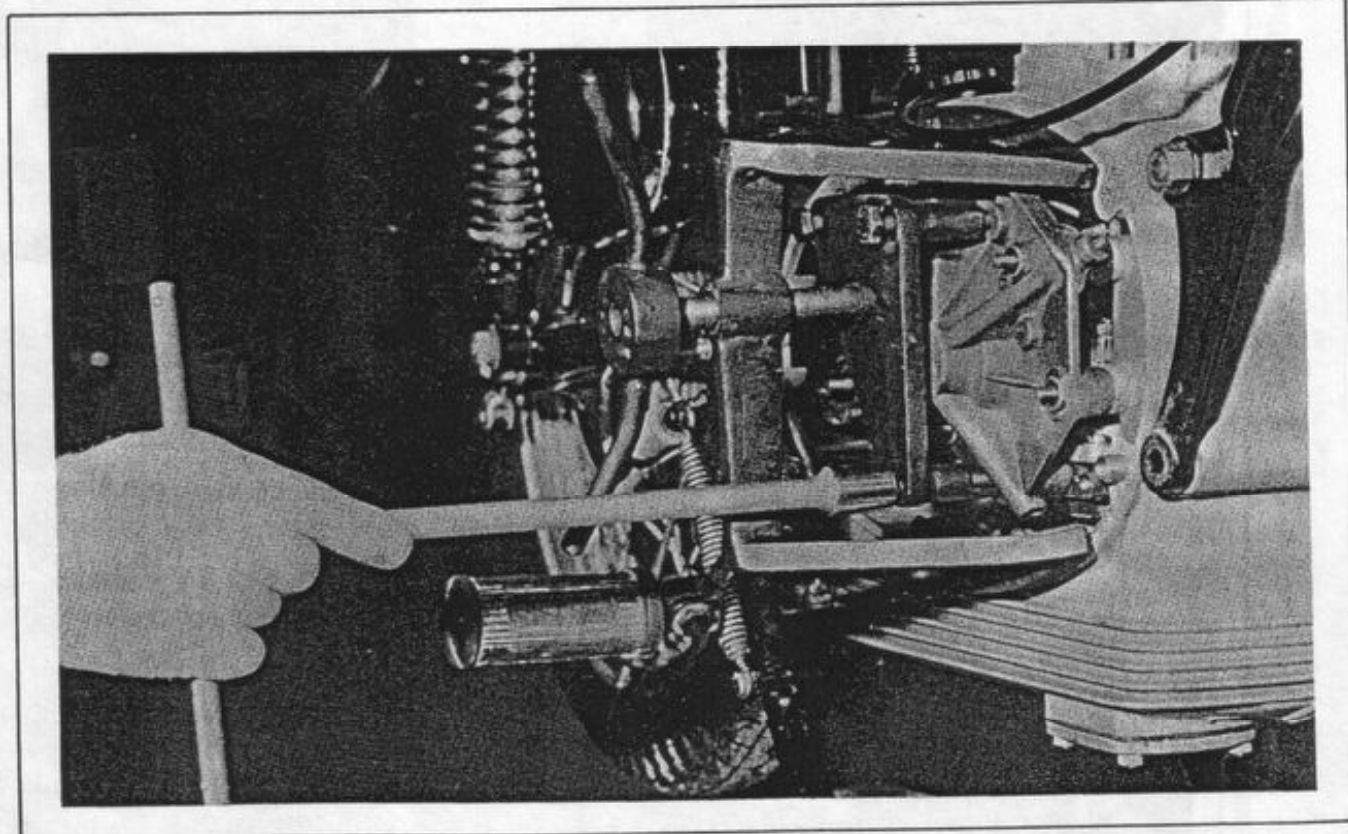
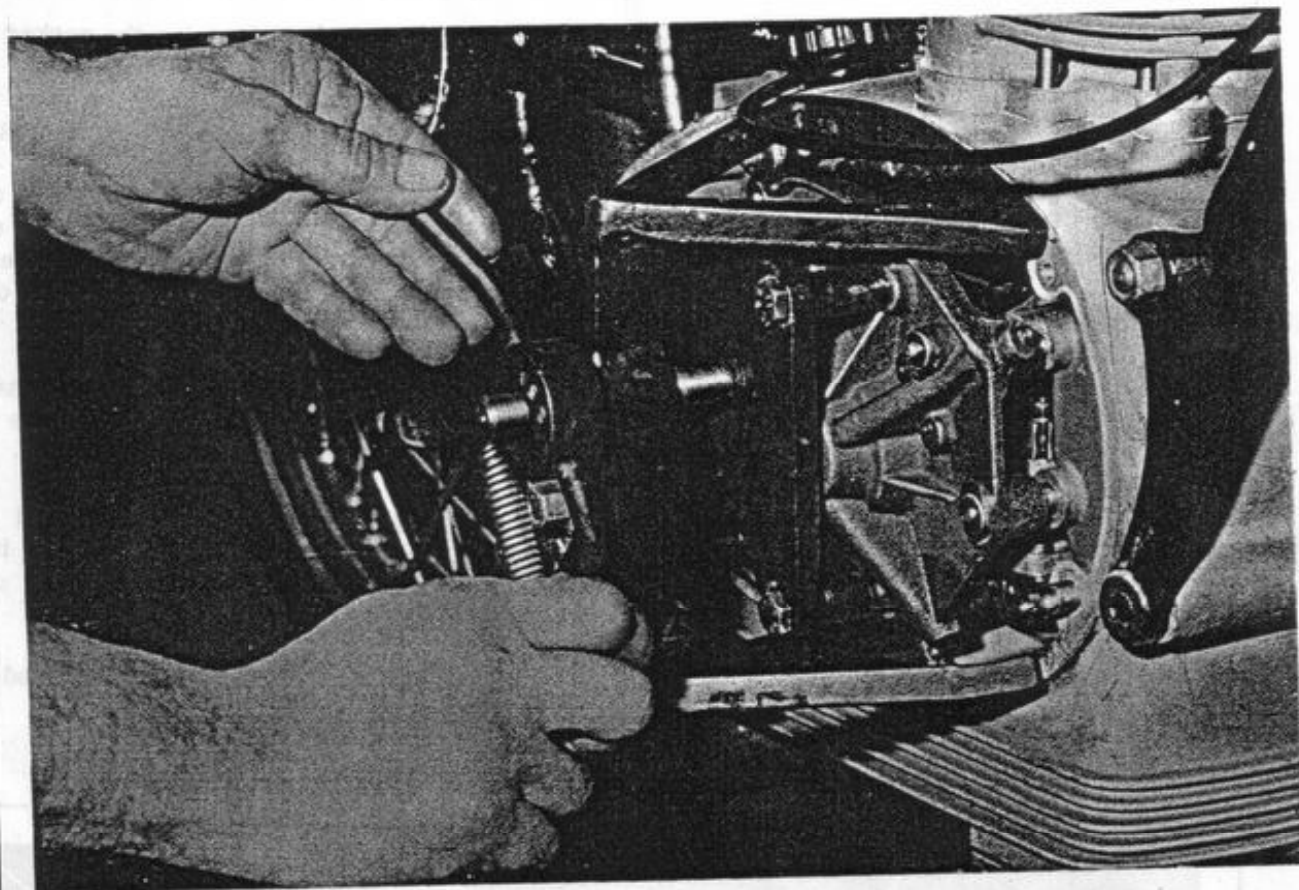
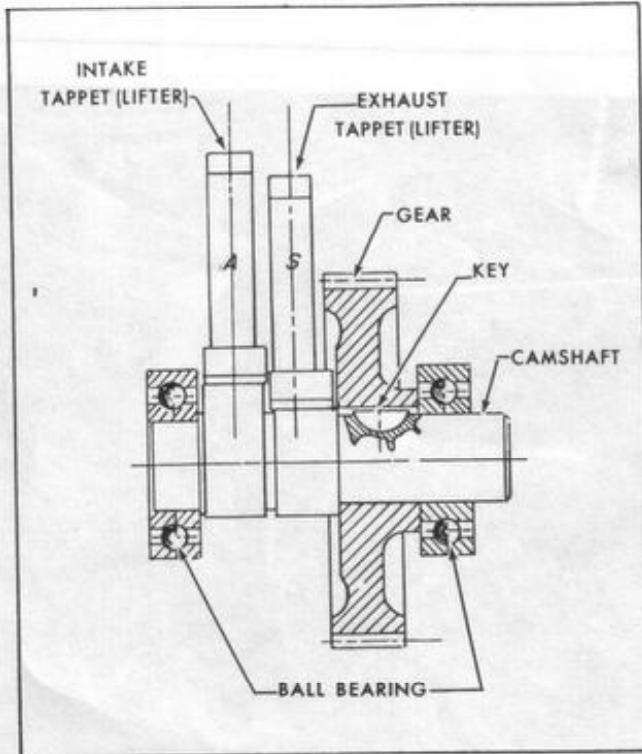

Figure 21.
Figure 22.
Figure 23.
6. Use puller DD to remove the bearing support plate. The support plate has three threaded holes to accept the three bolts (14 mm.) on the special puller. Attach the puller as illustrated in Figure 21 and remove the bearing support plate as shown in Figure 22. If the camshaft remains with the bearing in the bearing support plate, lift the tappets (lifters) to clear the camshaft and catch the tappets to avoid possible damage (Figure 23). Note that the bearing support plate also distributes the oil from the oil pump reference 134.